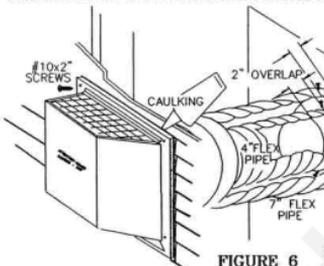

FIGURE 6
2. Stretch the 4" diameter aluminum flexible liner to the required length taking into account the additional length needed for the finished wall surface. Apply a heavy bead of the high temperature sealant, supplied with the unit, to the inside of the 4" liner approximately 1" from the end. Slip the liner a minimum of 2" over the fireplace vent collar and secure with 3 #8 screws. **FIGURE 6.**
6. Holding the air terminal (lettering in an upright, readable position), insert into both liners with a twisting motion to ensure that both the terminal sleeves engage into the liners / sealant. Secure the terminal to the exterior wall and make weather tight by sealing with caulking (not supplied). **FIGURE 6.**
exterior wall and make weather tight by sealing with caulking (not supplied). **FIGURE 6.**